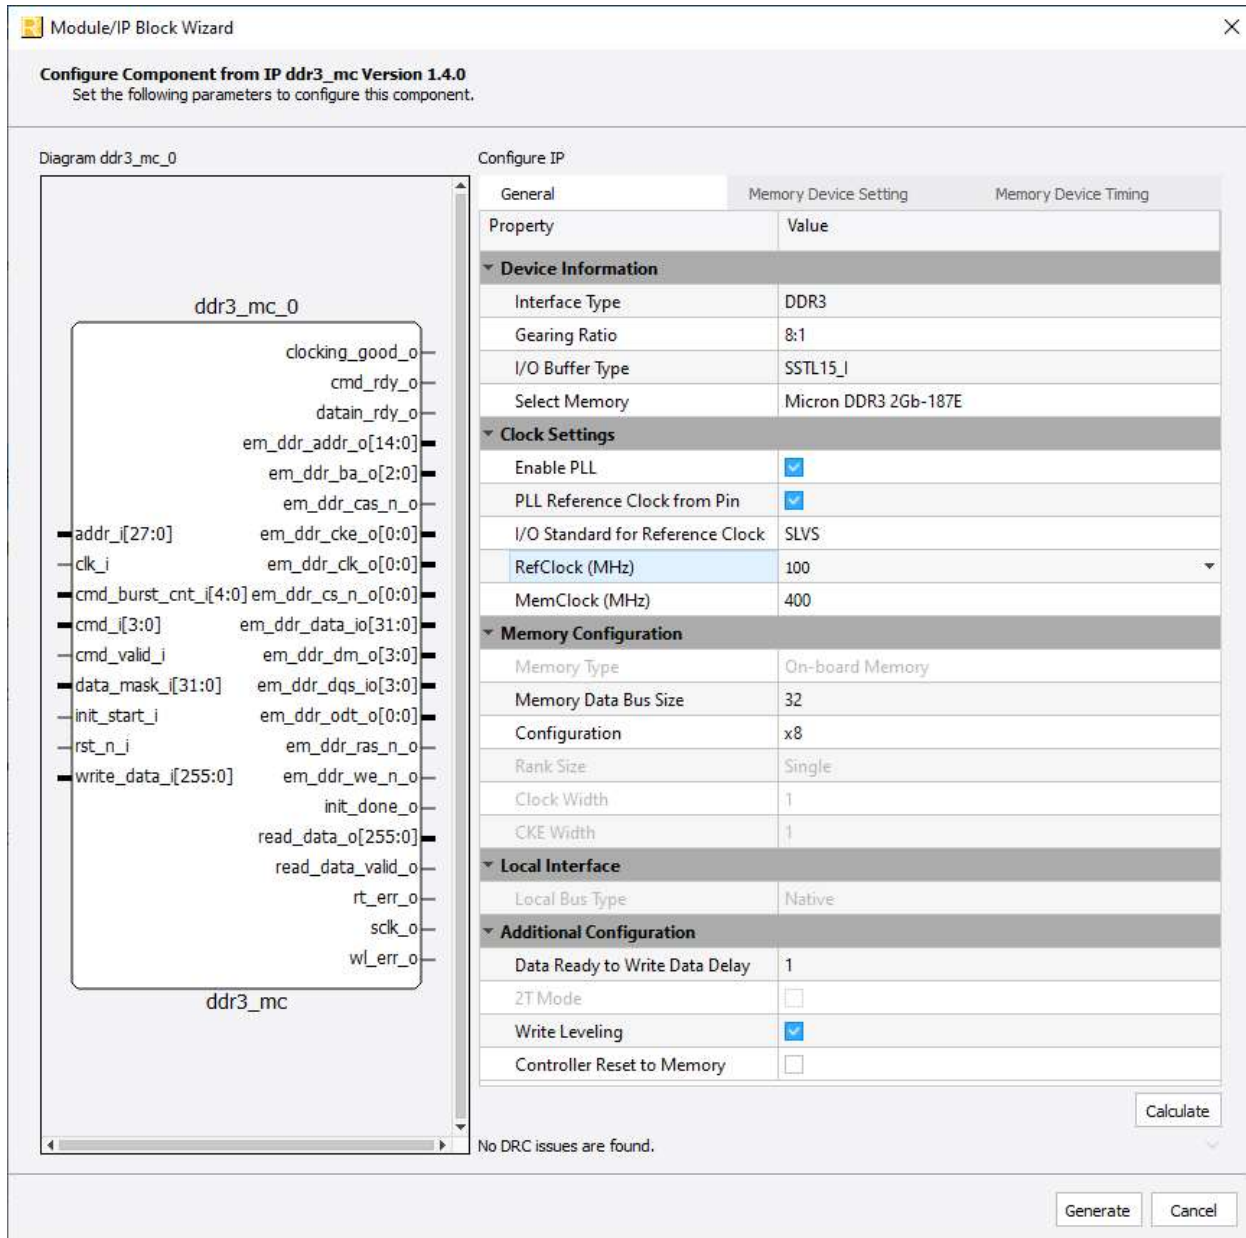
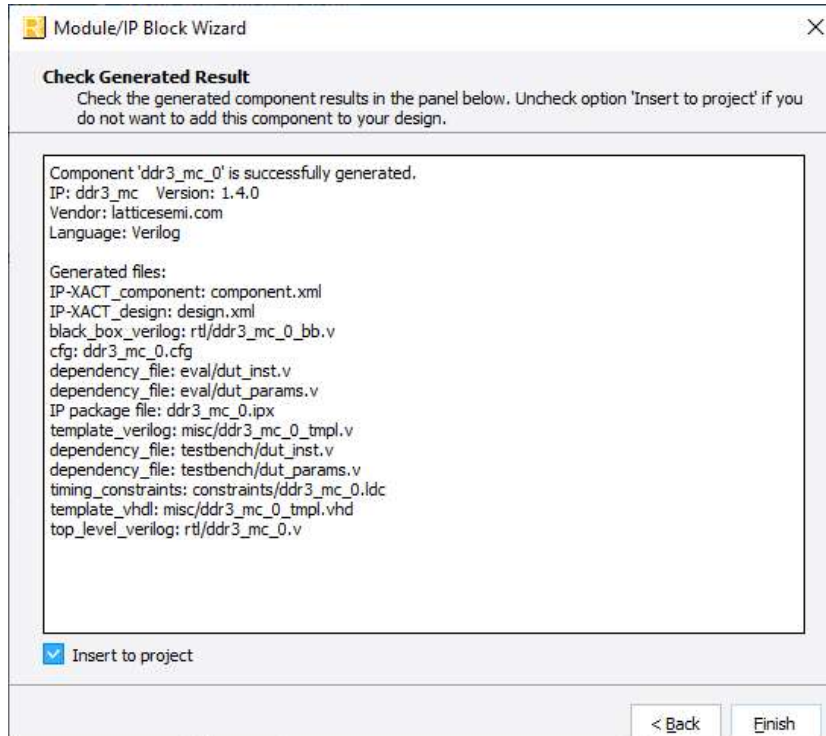
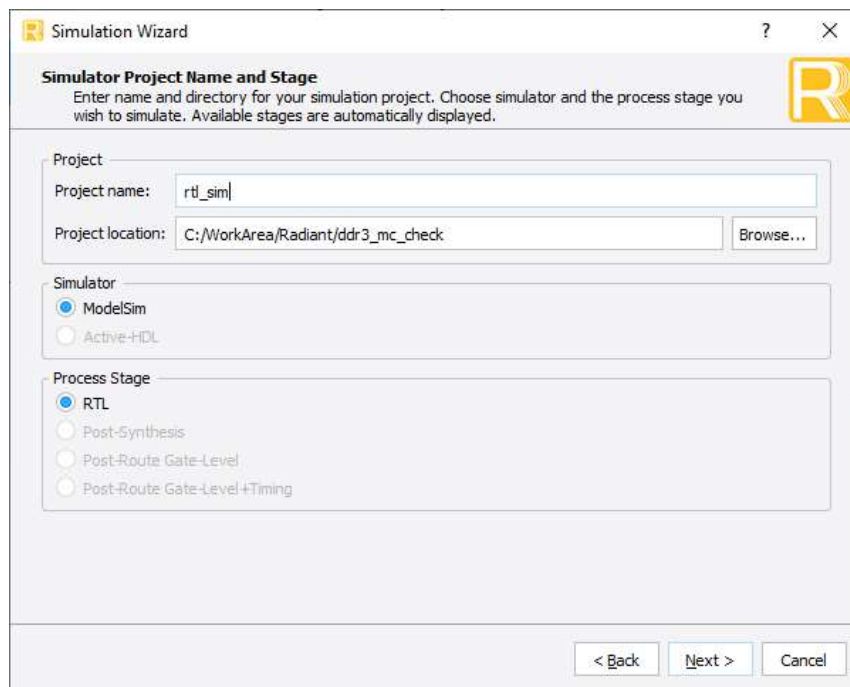
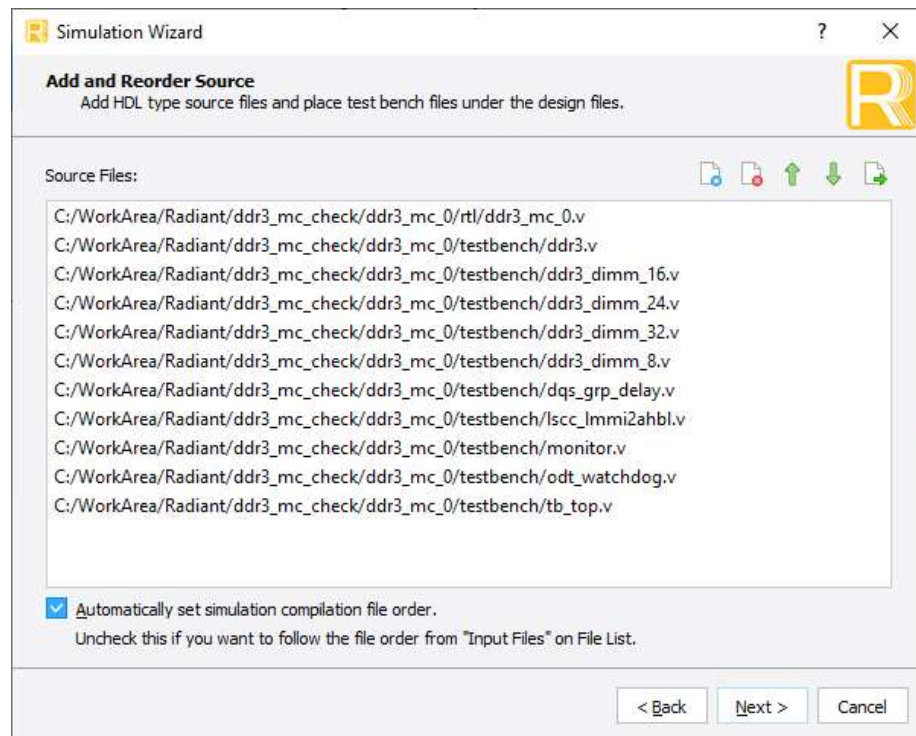

Figure 3.2. Module/IP Block Wizard of DDR3 SDRAM Controller IP Core
Figure 3.3. Check Generating Result
Figure 3.4. Simulation Wizard
Figure 3.5. Adding and Reordering Source
- In the module's dialog box of the **Module/IP Block Wizard** window, customize the selected DDR3 SDRAM Controller IP Core using drop-down menus and check boxes. As a sample configuration, see Figure 3.2. For configuration options, see the Attributes Summary section.
- Click **Generate**. The **Check Generating Result** dialog box opens, showing design block messages and results as shown in Figure 3.3.
1. Click the  button located on the **Toolbar** to initiate the **Simulation Wizard** shown in Figure 3.4.
- Click **Next** to open the **Add and Reorder Source** window as shown in Figure 3.5. Notice that the **Source Files** area only contain the generated IP (<Component name>.v) and the tb_top.v, which is added in Step 1. The tb_top.v includes all the necessary test files for simulation.
Core Generation, Simulation, and Validation	<ul style="list-style-type: none"> Updated Figure 3.1, Figure 3.2, Figure 3.3, Figure 3.4, and Figure 3.5 for IP Core v1.4.0. Updated Table 3.1 to add eval/lsc_pll.v. Updated steps for Running Functional Simulation.